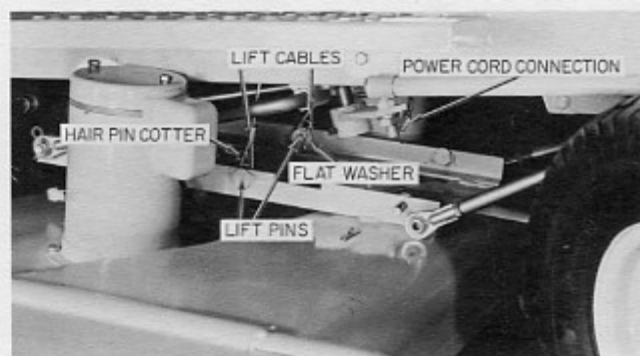

Figure 10
7. Attach the remaining suspension arms in similar fashion. (See Figure 10.)
8. Move the manual lift handle fully-forward and attach both lift cables to their corresponding lift pins on the mower deck. Secure each with a plain washer and hair pin cotter. (See Figure 10.)